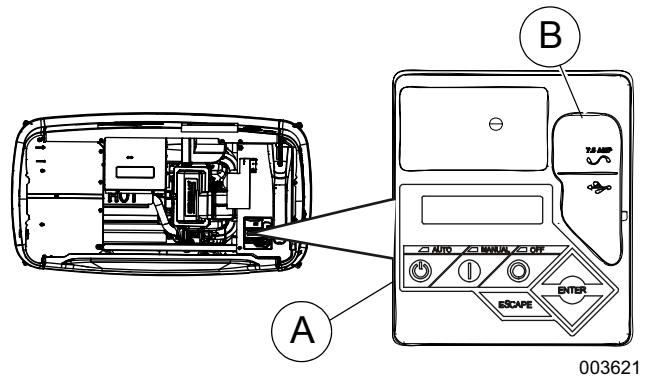

Figure 3-5. Generator Control Panel
See Figure 3-5. The control panel interface (A) is located under the lid of the enclosure. Verify that both the left and right side locks are unlocked before attempting to lift the lid of the enclosure. Open the lid as directed in Opening the Lid.